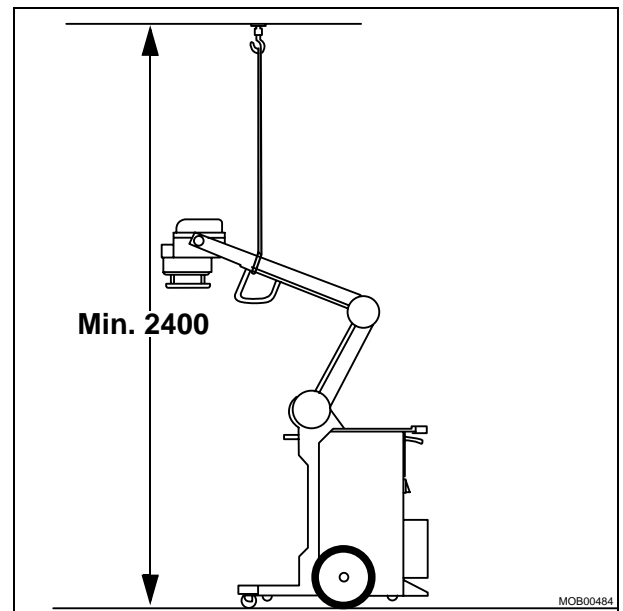

Fig. 28
- Raise the single tank to maximum height and secure it with a ceiling support (Fig. 28).